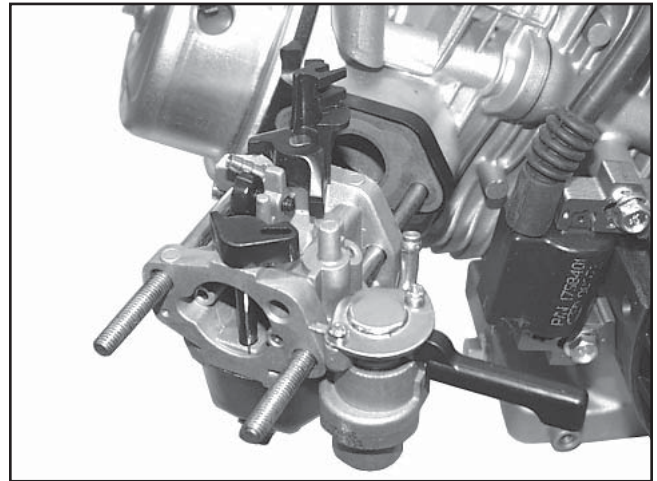

Figure 11-58. Install Carburetor.
2. Push the carburetor all the way onto the studs. See Figure 11-58.